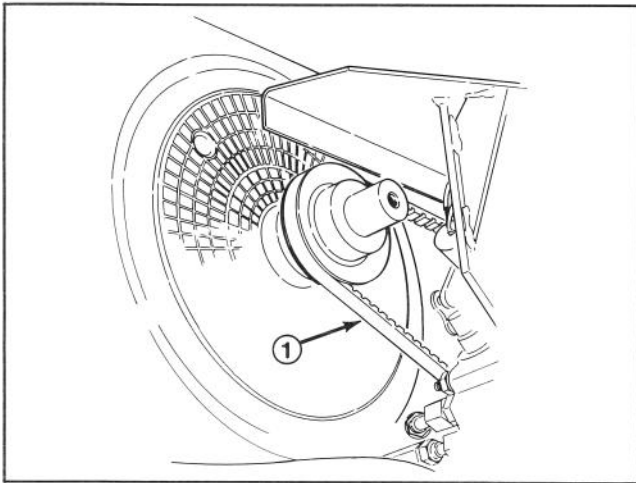

Figure 36
1. The belt tension on the hydraulic pump (Fig. 36) must have a maximum deflection of $5/32$ of an inch with a 2 to 3 pound load applied.